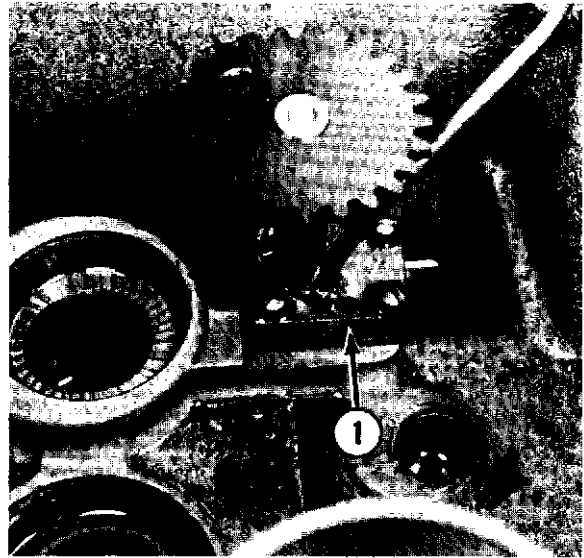

Fig. 11-22
- D. Install the oil pump (1, Fig. 11-22).